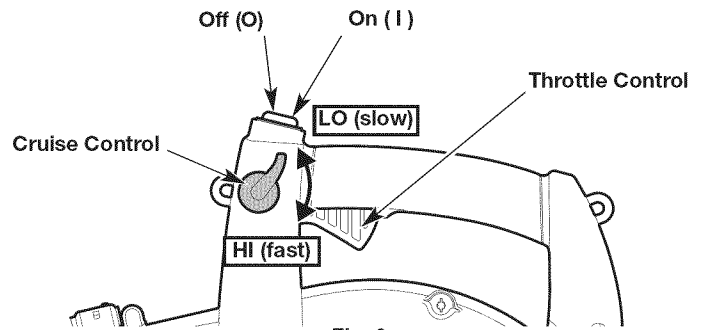
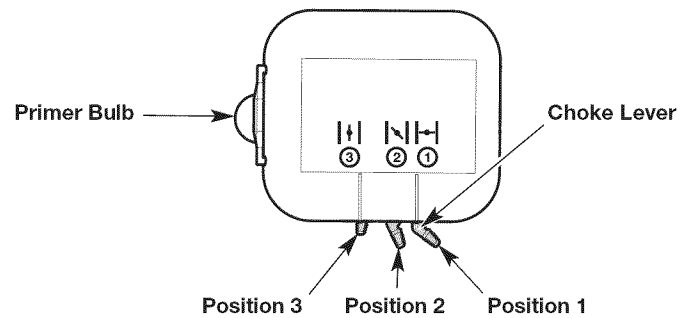

Fig. 6
Fig. 7
**NOTE:** There is no need to turn the unit on. The On/Off switch is in the ON (I) position at all times (Fig. 6).
3. Slowly press and release the primer bulb **10 times** (Fig. 7).
4. Move the cruise control to the **LO (slow)** position (Fig. 6).
**NOTE:** Keep the cruise control in the **LO (slow)** position and **DO NOT** squeeze the throttle control until step 10 (Fig. 6).
5. Move the choke lever to **Position 1** (Fig. 7).
8. **DO NOT** squeeze the throttle control. Move the choke lever to **Position 2** (Fig. 7).
10. Squeeze and hold the throttle control or move the cruise control to the **HI (fast)** position (Fig. 6). Allow the engine to warm up for 30 to 60 seconds.
11. Continue to squeeze the throttle control or keep the cruise control in the **HI (fast)** position (Fig. 6). Move the choke lever to **Position 3** (Fig. 7) and continue warming the engine for an additional 60 seconds. The unit may be used during this time.
2. Press and hold the On/Off switch in the **OFF (O)** position until the engine comes to a complete stop (Fig. 6).
**NOTE:** Keep the cruise control in the **LO (slow)** position and **DO NOT** squeeze the throttle control until step 12 (Fig. 6).
9. **DO NOT** squeeze the throttle control. Move the choke lever to **Position 2** (Fig. 7).
12. Squeeze and hold the throttle control or move the cruise control to the **HI (fast)** position (Fig. 6). Allow the engine to warm up for 30 to 60 seconds.
13. Continue to squeeze the throttle control or keep the cruise control in the **HI (fast)** position (Fig. 6). Move the choke lever to **Position 3** (Fig. 7) and continue warming the engine for an additional 60 seconds. The unit may be used during this time.
2. Press and hold the On/Off switch in the OFF (O) position until the engine comes to a complete stop (Fig. 6).
- Use the cruise control to make continuous operation easier (Fig. 6).